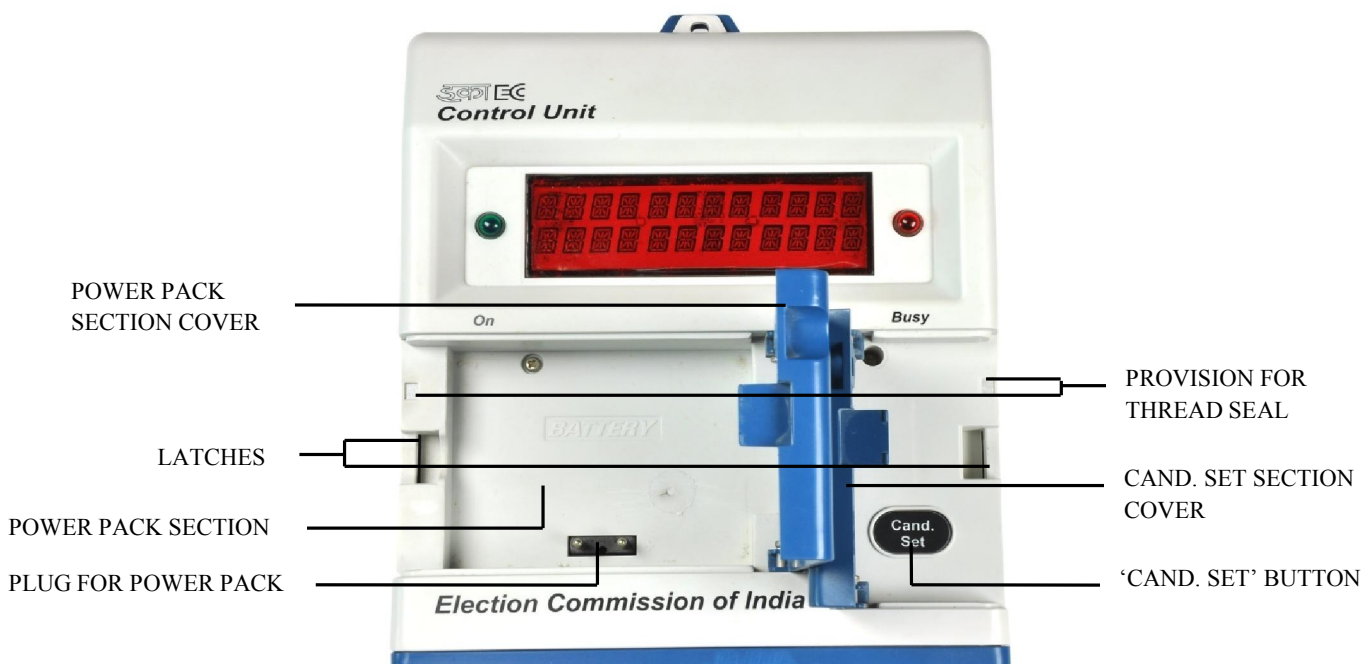

Fig.9 View of Candidate Set Section & Power Pack section
- 21 The candidate set section (Fig.9) houses a 'Cand. Set' button. This section has a cover which opens from right to left by pressing the latch on the right hand side and can be sealed by thread seal. In this Section a black 'Cand. Set' button is located. The candidate set section can be closed and sealed by thread seal as shown in Fig. 7.
Power Pack Section as in Fig. 9 is used to accommodate Power Pack. Its flap opens from left to right by pressing left hand slide latch. Through hole thread seal provision is provided to seal the Power Pack compartment.
##### Cand. Set Button (Fig. 9)